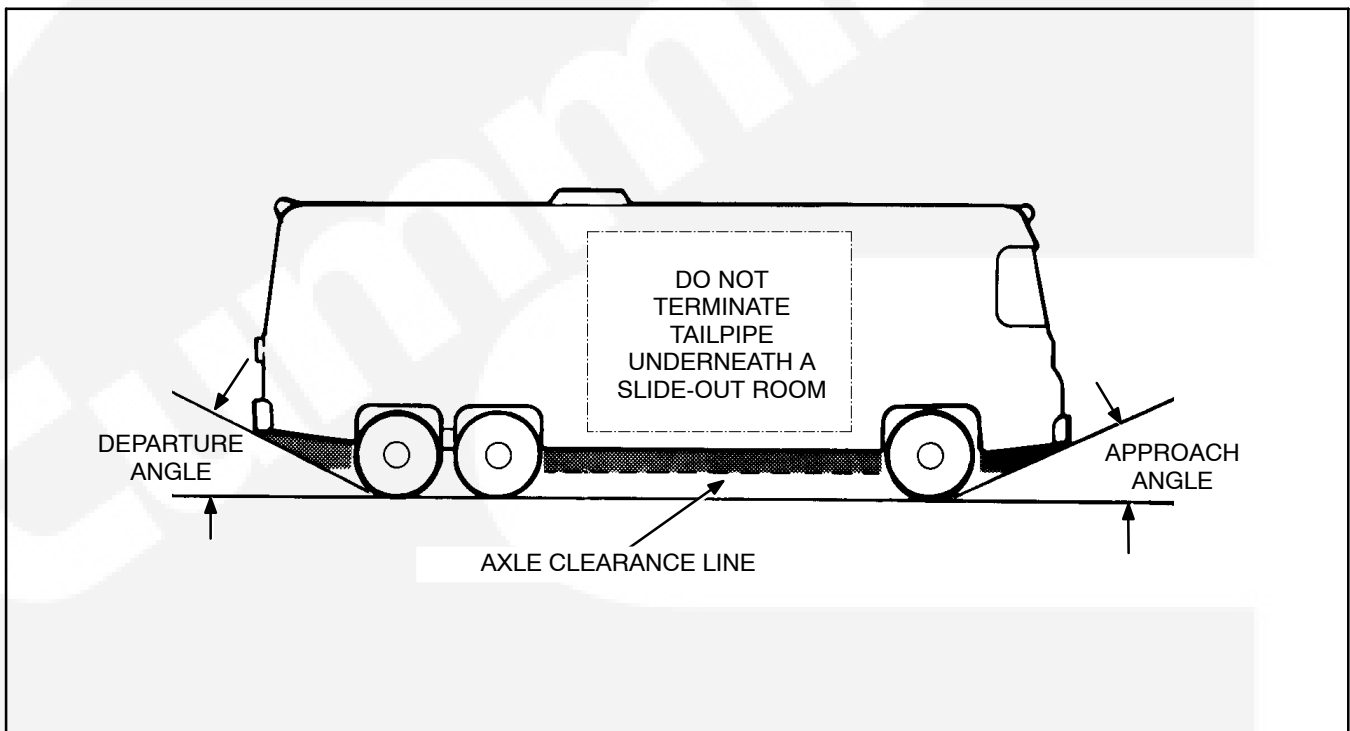

FIGURE 2-7. APPROACH AND DEPARTURE ANGLES AND AXLE CLEARANCE LINE
Note: Do not terminate the tailpipe underneath a slide-out room (Figure 2-7), unless the bottom of the slide-out, including skirts and moldings, is at least 3 feet above the end of the tailpipe.
11. Route the tailpipe such that it will not likely be struck when the vehicle is moving. Keep it out of the approach and departure angles of the vehicle and above the axle clearance line (Figure 2-7).